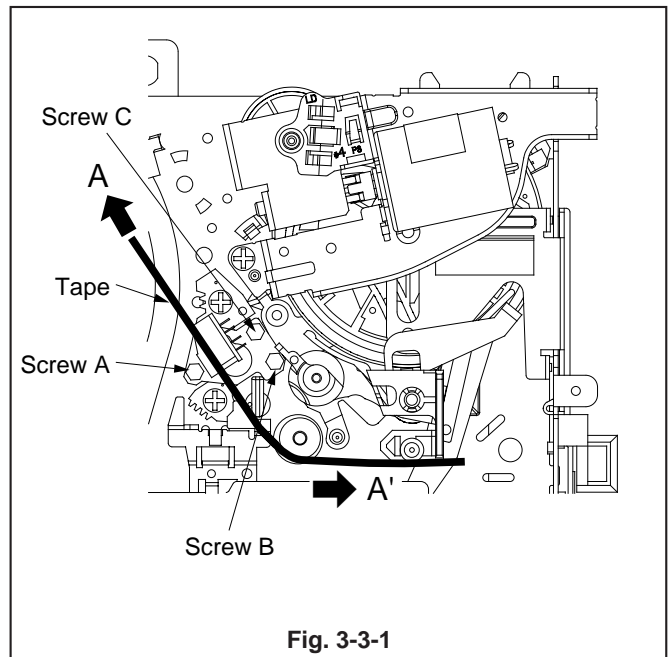
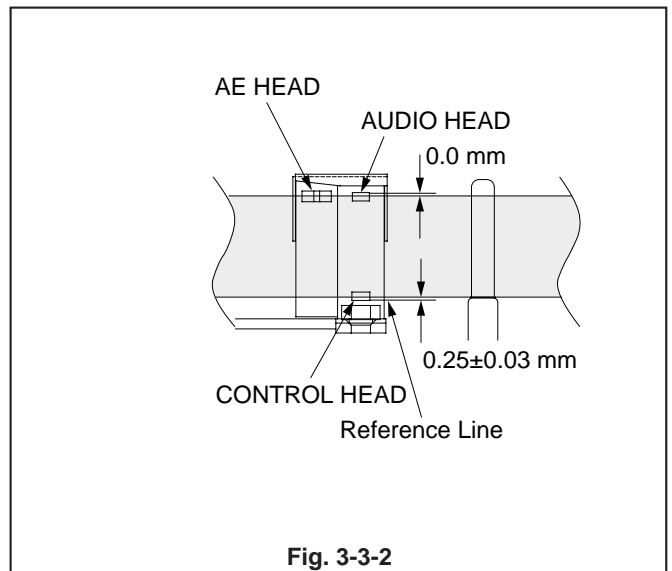

Fig. 3-3-1
Fig. 3-3-2
2. Slowly turn Screw C shown in Fig. 3-3-1 counter-clockwise to slightly crease the bottom of the tape at the lower flange of the GUIDE POLE (TU).
1. If the height of the CONTROL HEAD is different from the specified value shown in Fig. 3-3-2, realign it with Screw A, B, and C in Fig. 3-3-1.
5. Turn Screw B for the azimuth adjustment shown in Fig. 3-3-1 to set the audio output level to maximum as shown in Fig. 3-3-3. After the adjustment, remove the screwdriver and make sure that the audio output level is 4.6 or over on the oscilloscope with the maximum audio output level set to 5. If the audio output level is less than 4.6, repeat this adjustment from the beginning.
6. Make sure that the audio output level doesn't vary when the A/C HEAD is pushed in the horizontal direction (or in the direction shown by the A-A' line in Fig. 3-3-1) and released. (Do not push the A/C HEAD before the audio output level drops to 3/4 or less of its maximum level.)
9. If the height of the CONTROL HEAD isn't set to the specified value, replace the TAPE GUIDE ASSY (SP) and the TAPE GUIDE ASSY (TU) in accordance with "2-32. TAPE GUIDE ASSY (SP), TAPE GUIDE ASSY (TU)."